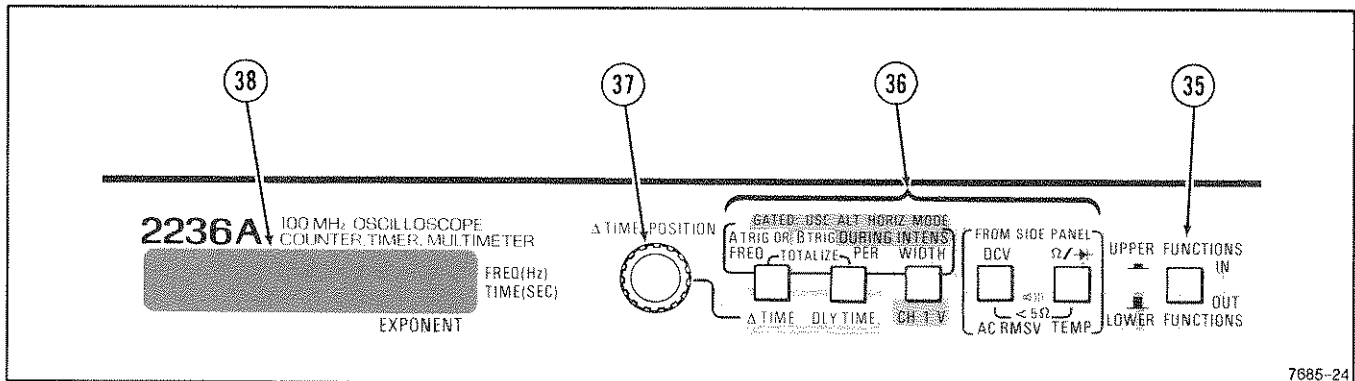

Figure 2-7. Counter, timer, and multimeter controls and indicator.
Refer to Figure 2-7 for location of items 35 through 38.